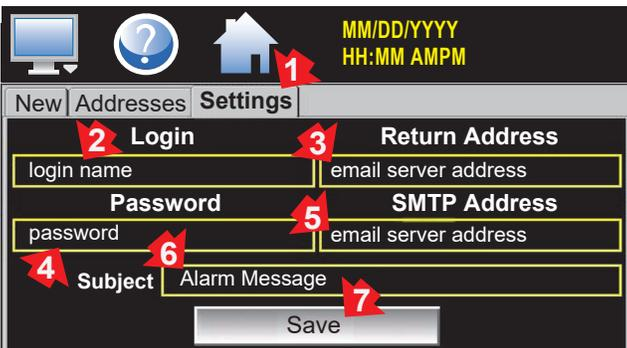

Figure 46. Email Server Configuration
4. Email Settings, touch: (1)Settings tab (2) Login box opens keypad, Key name (3)Return Address - for security/anti-spam. (4)Password (5)Address - email server. Touch (6)Subject box, Key alarm description, touch (7)Save button to store the settings. (Figure 46).